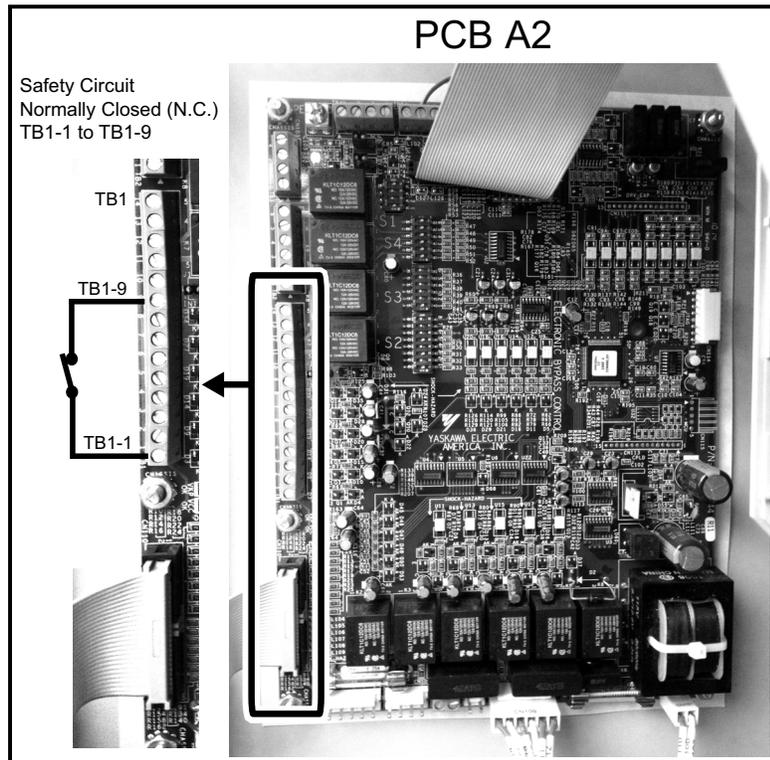

Figure 2 Option1: Normally Closed (N.C.) Safety Circuit Installation
1. Option 1: Install a N.C. Safety Circuit between TB1-1 and TB1-9 on PCB A2 according to Figure 2.